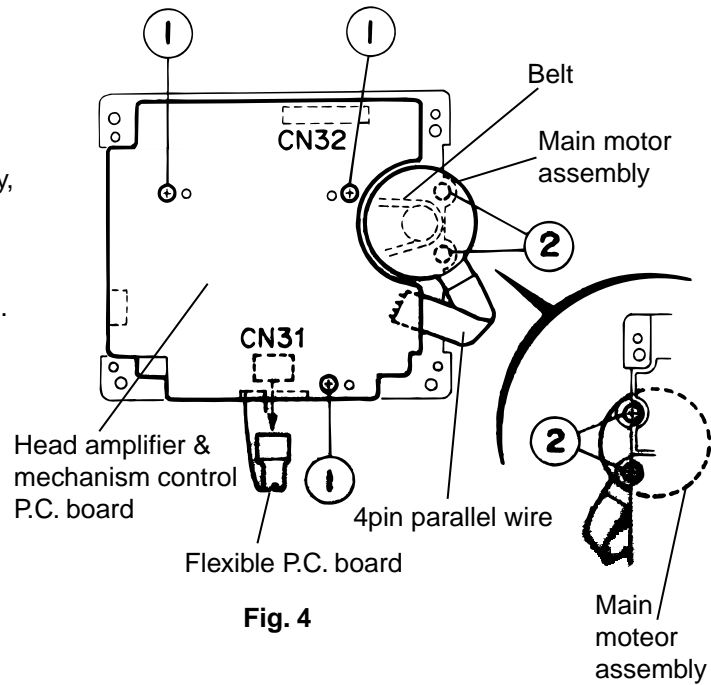

Fig. 4
(See Fig. 4)
(See Fig. 4~6)
1. Remove the two screws "2" retaining the main motor assembly (See Fig. 4, 4a).